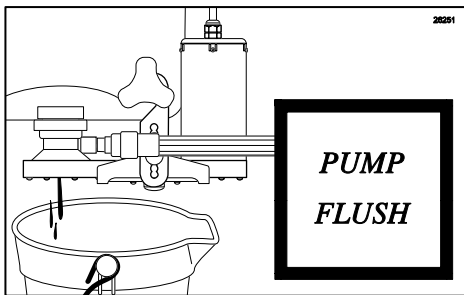

Figure 164
- Place a container under the Injector Head to catch sanitizer solution and/or fresh product to be dispensed and press PUMP FLUSH to prime the syrup line. (See Figure 164.)